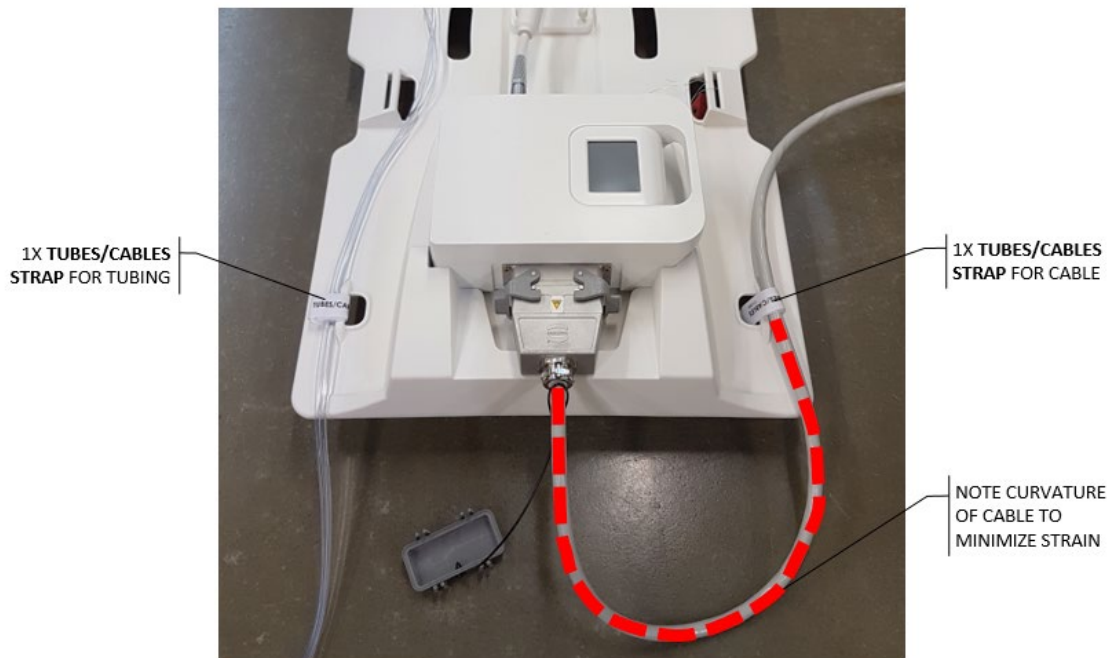

Figure 26. Tube-and-cable straps of base plate: one for tube sets and one for RF cable.
4. Use tube-and-cable straps to manage fluid tubes and the white RF cable (Figure 26). Leave slack to allow the cables to slide freely and to reduce tripping hazards. Ensure no cables, tubing, or other materials can be caught while the MRI table is moving.